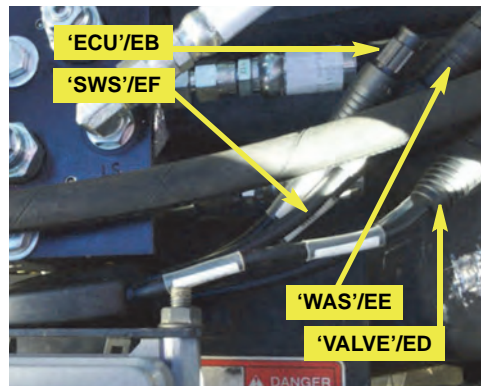
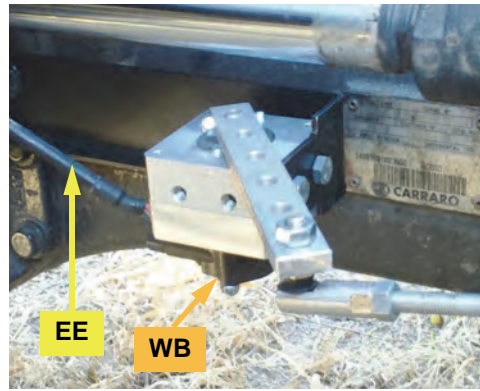

Figure 2d: Steering controller cable connections to function cables
Figure 2e: WAS cable at WAS connector
- d. Install extension cable **EB** between steering controller cable **EC**'s connector labeled 'ECU' (Figure 2d) and, in the cab, **EA**'s connector labeled 'STEERING CONTROLLER'.
- e. Install SWS cable **EF** between steering controller cable **EC**'s connector labeled 'SWS' (Figure 2d) and, in the cab, steering wheel switch connector **SD**.
- f. Connect WAS cable **EE** to **EC**'s connector labeled 'WAS' (Figure 2d). Route **EE** to the WAS assembly on the right front axle. Connect **EE** to **WB**'s wire connector (Figure 2e).